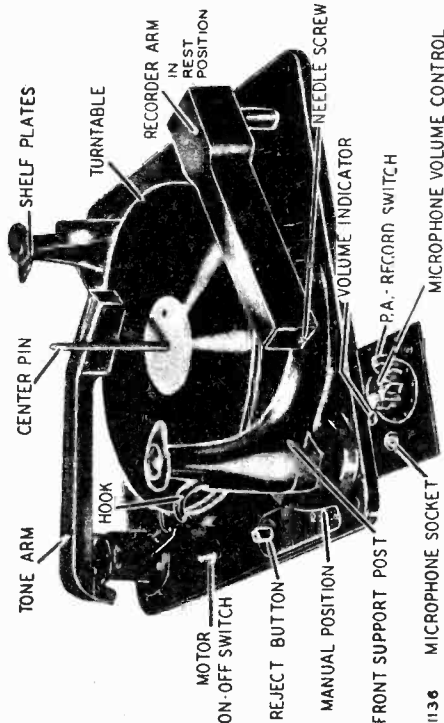

Fig. 2—Phonograph and Recorder Unit
A standard arrangement for switch contact location numbering has been adopted. This numbering is illustrated in Fig. 2. In contact locations not used, the number applying to that particular location is not employed.
The power unit is that portion of the chassis assembly contained within the large rectangular shield can and the circuit for which is shown within the dotted lines at the lower right side of the schematic diagram, Fig. 2.
M—Push the Motor Switch to the ON position (Fig. 2) and allow the turntable to come up to full speed.
- C—Microphone Volume Control in OFF position.—See Fig. 2.
- F—Insert the plug on the end of the microphone cord into the microphone socket (Fig. 2) on the motor panel and push this plug all the way down.
- B—Recorder arm in rest position.—See Fig. 2.
- D—Microphone Volume Control in OFF position.—See Fig. 2.
- E—P.A.-Record Switch in RECORD position.—See Fig. 2.
- K—Push the Motor Switch to the ON position (Fig. 2) and allow the turntable to come up to full speed.
- G—Insert the plug on the end of the microphone cord into the microphone socket (Fig. 2) on the motor panel and push this plug all the way down.
Note that these needles have a long "flat" on the side of the shank. To install a recording needle, loosen the needle screw—See Fig. 2. Place the recording needle all the way in the hole on the underside of the recorder arm, with the flat portion of the needle shank toward the needle screw. Tighten the needle firmly. If the needle is in backward at all angles, it will not cut properly and will damage the record and the needle.